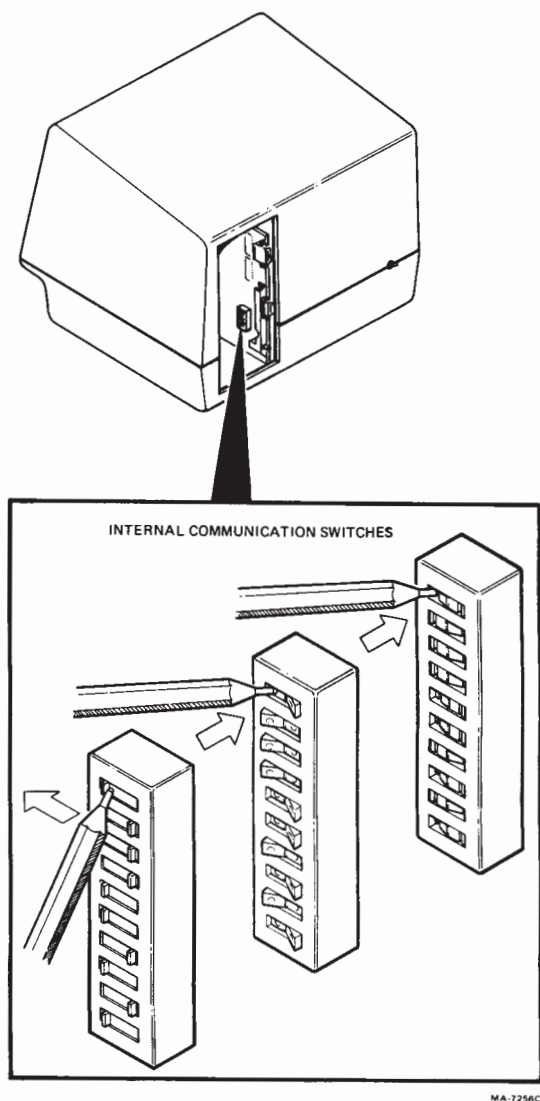

Figure 1-3 Communication Switch Location
- b. Use a small screwdriver or ball-point pen to set the communication switches (Figure 1-3).